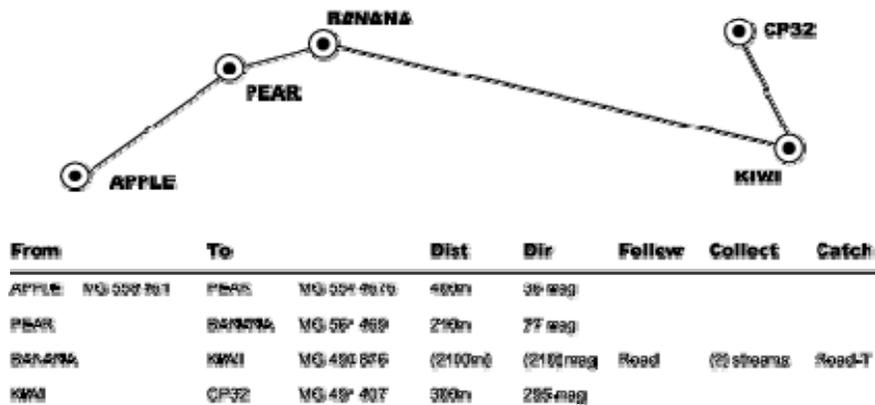

Figure 1. Route Overlay.
1. **The standard route plan consists of an overlay sketch and a route table.** See Figure 1. When an acetate or paper overlay sketch cannot be made, a route table is the minimum requirement.